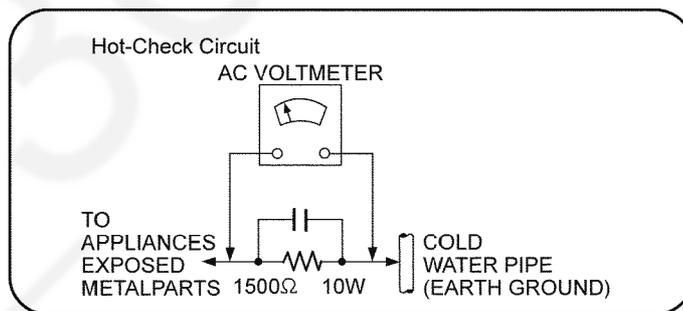

Figure. 1-1
- Connect a  $1.5k\Omega$ , 10 watts resistor, in parallel with a  $0.15\mu F$  capacitors, between each exposed metallic part on the set and a good earth ground such as a water pipe, as shown in Figure 1-1.